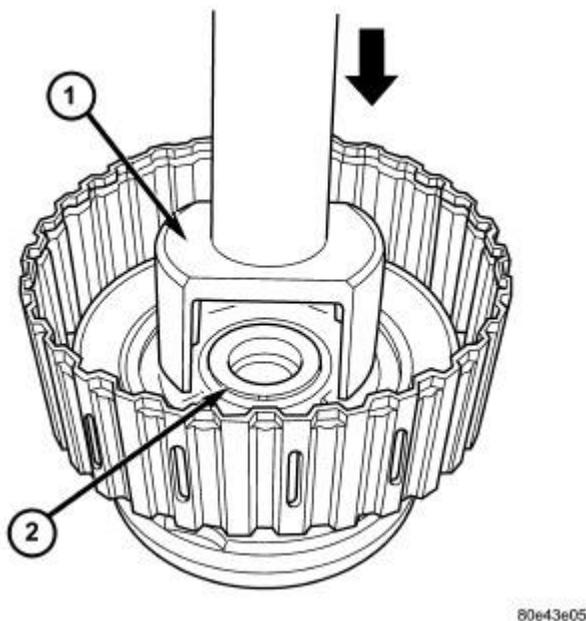

Fig. 144: Compressing K2 Clutch Spring
3. Place Multi-use Spring Compressor (special tool #8900A, Multi Use Spring Compressor) (1) on spring plate and press until the groove (2) of the snap-ring is exposed. Refer to **Fig. 144**.
5. Insert disk spring (14).